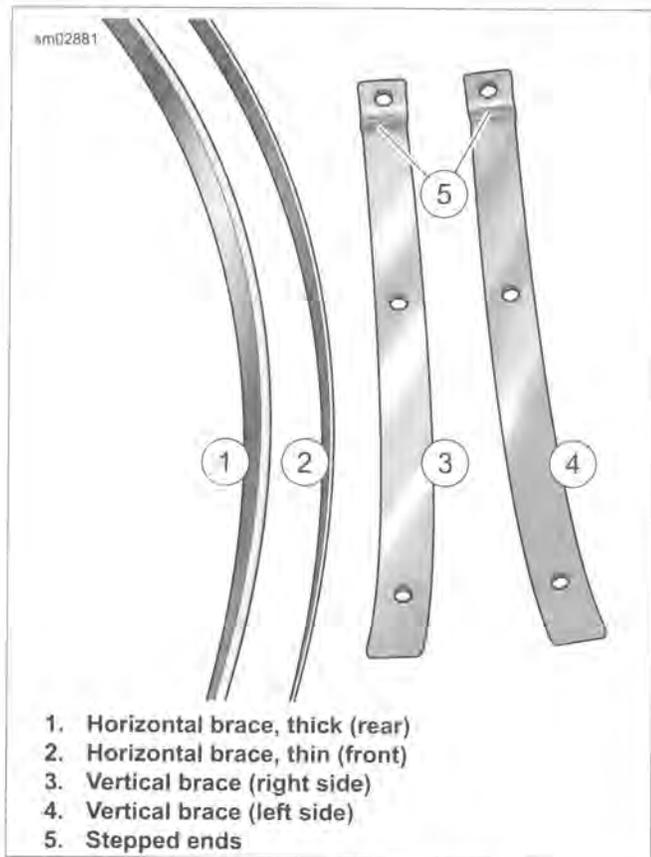

Figure 2-153. Windshield Braces
3. See Figure 2-153. Remove paper backing from adhesive strip on thicker horizontal brace. Align holes in brace with holes in windshield and press brace into position.
7. See Figure 2-153. Remove paper backing from adhesive strip on vertical brace. With the stepped end overlapping the horizontal brace and the end with the slight bend angled outward, align holes in brace with holes in windshield. Press into position.